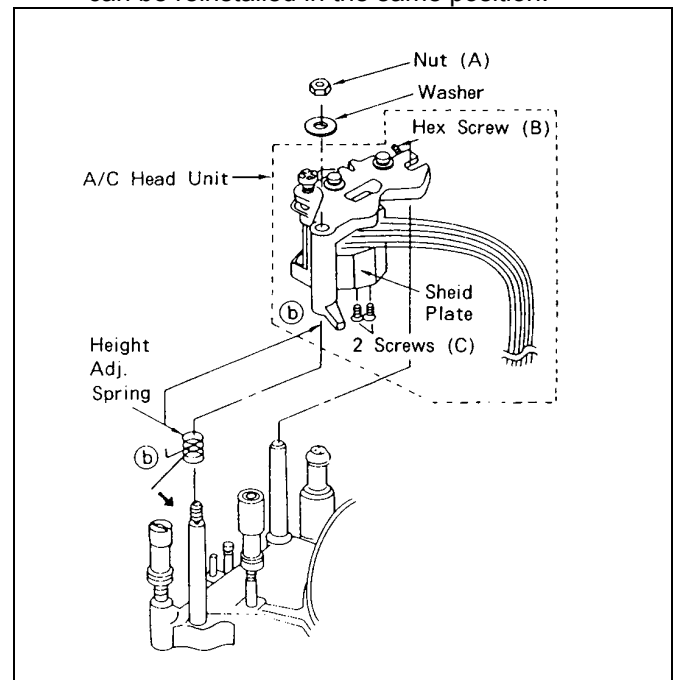

Figure 7-7-1 A/C Head Removal
1. Remove nut (A) and washer, loosen hex-screw (B), hang off height adjustment spring and then remove A/C Head assembly as shown in Figure 7-7-1.
2. Remove shield plate by removing 2 screws (C) as shown in Figure 7-7-1.